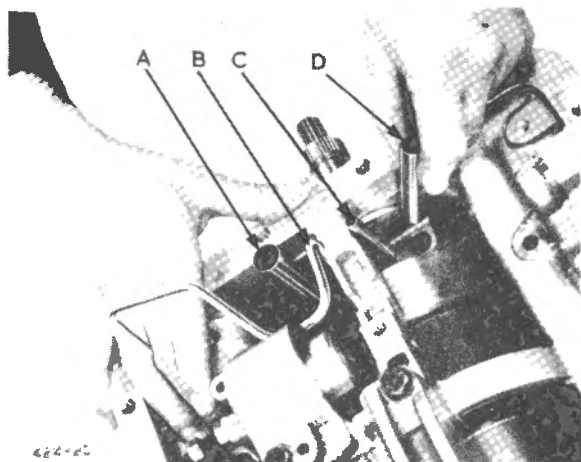

Fig. M-46
- (a) Ensure that oil pipes (8) Fig. M-46 are in position.